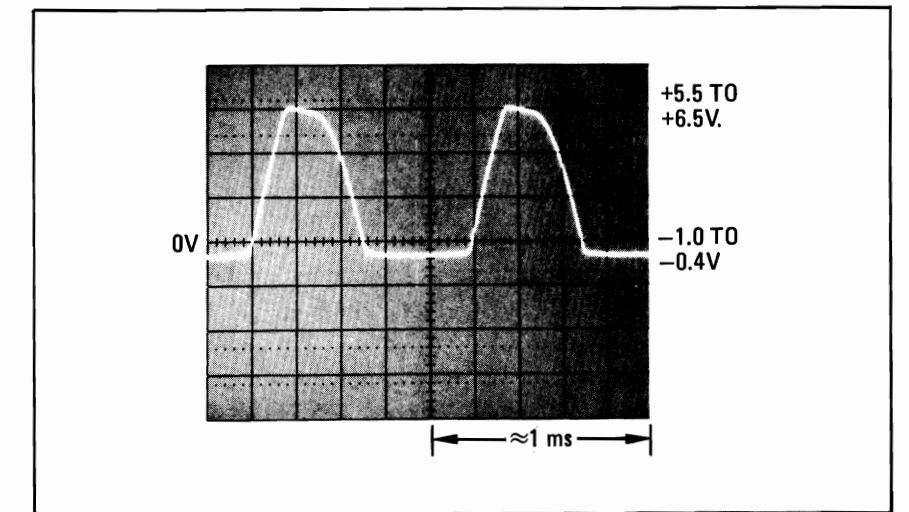

Figure 8-77. Oscillator Leveling Check Waveform A
3. Connect the oscilloscope to pin 2 of U9. The waveform should be as shown in Figure 8-77.
4. Connect the oscilloscope to A5TP2 (S/H GATE). The waveform should be as shown in Figure 8-77.
5. Connect the oscilloscope to pin 2 of U9. The waveform should be as shown in Figure 8-77.
6. Connect the oscilloscope to A5TP2 (S/H GATE). The waveform should be as shown in Figure 8-77.
7. Connect the oscilloscope to A5TP2 (S/H GATE). The waveform should be as shown in Figure 8-77.